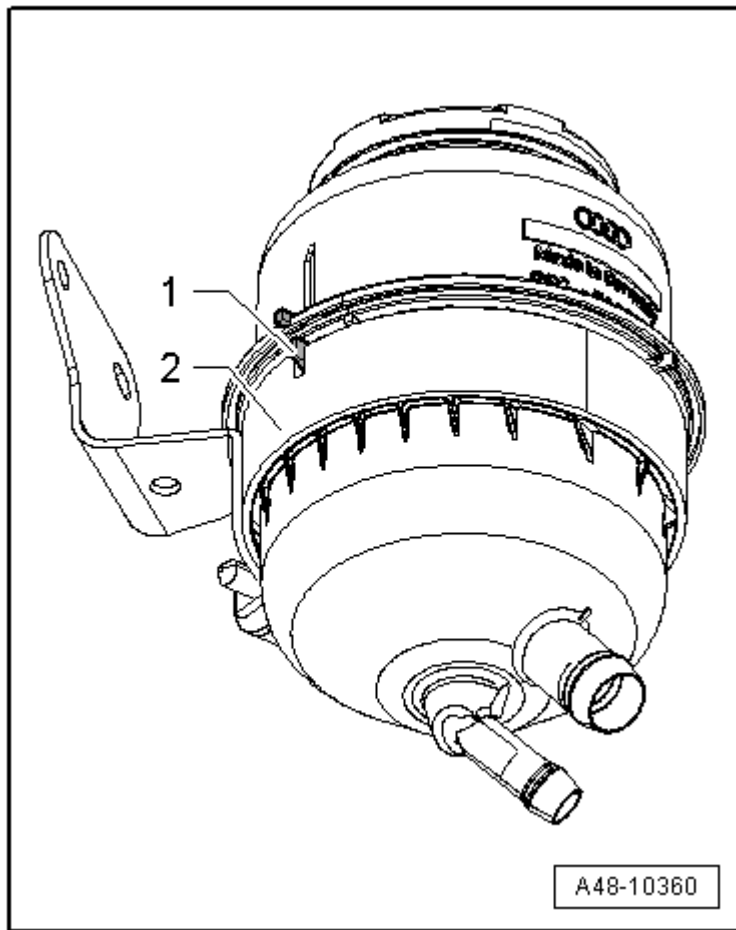

Fig. 42: Reservoir In Bracket
2. Reservoir in bracket, refer to **Fig. 42**